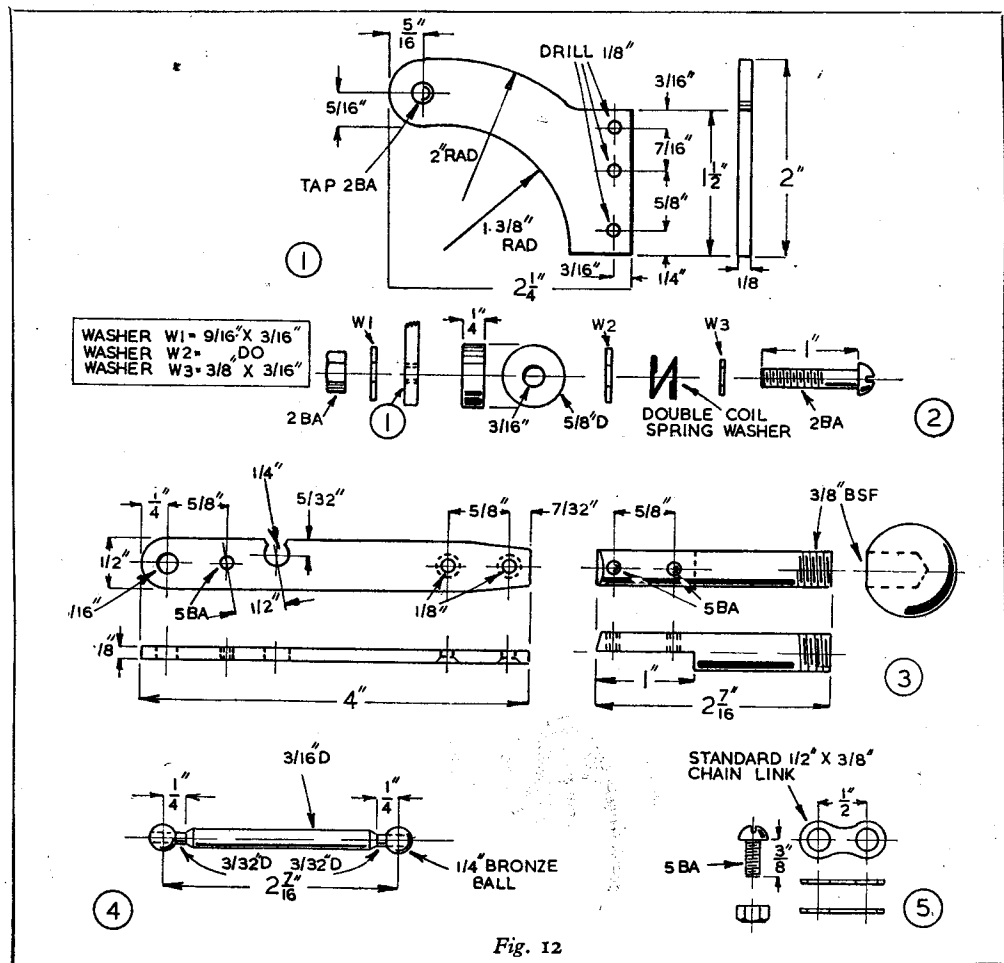

Fig. 12
The general appearance of the fitting is shown in Fig. 11, and the dimensioned working drawings bearing corresponding reference numbers are given in Fig. 12.
The frictional control of the lever is provided for by a double-coil spring-washer compressed between two $\frac{7}{16}$ in. plain washers. A distance collar is fitted between the bracket and the lever to maintain the correct centre height in relation to the tool carrier, and thus allow the connecting-rod to lie horizontally. The dimensions of the parts forming the lever pivot assembly are shown in Fig. 12 (2).